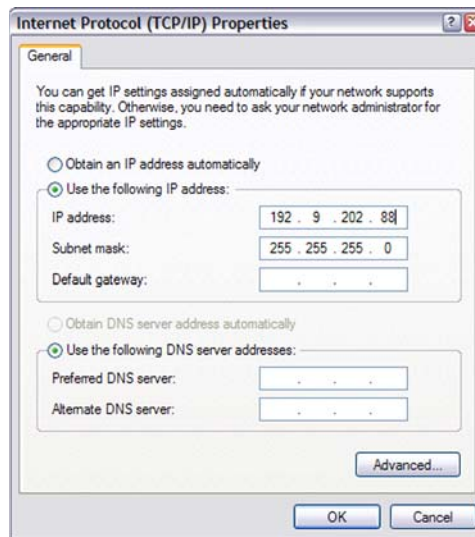

Figure 67: Internet Protocol (TCP/IP) Properties window
6. Double-click **Internet Protocol (TCP/IP)**. The Internet Protocol (TCP/IP) Properties window appears (Figure 67).
2. From the Internet Protocol (TCP/IP) window (Figure 67), select **Use the following IP address**.